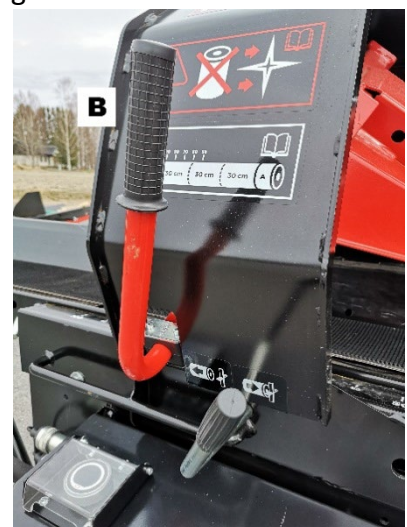

Figure 22
- ❑ The hydraulic log-clamp A, Fig. 22, is an easy-to-operate device that prevents the log from moving during cutting.